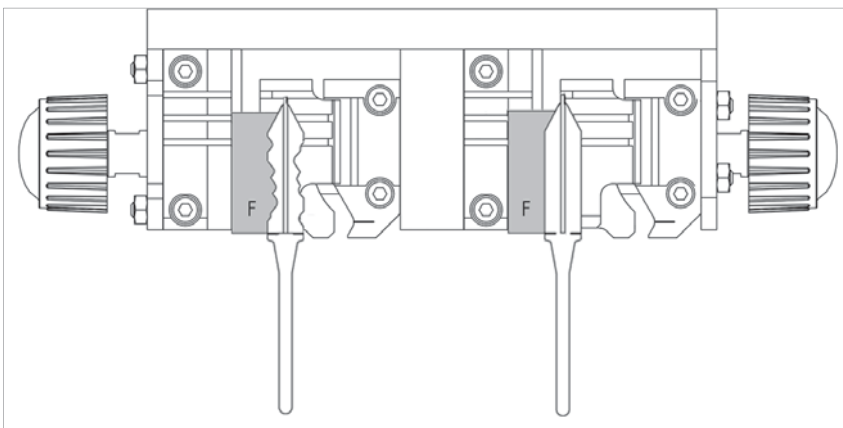

Fig. 49
- 3) Insert the keys taking the stop up against the adapter (Fig. 49).
- 4) Secure adapters and keys by tightening the knobs (E) (E1).